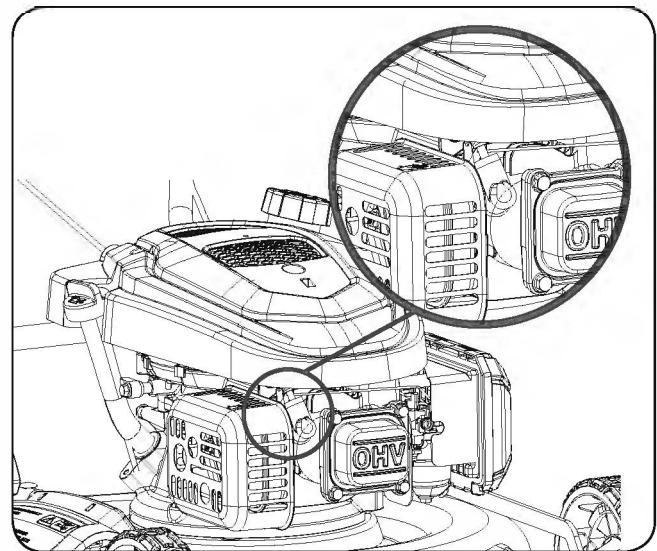

Figure 15
- Disconnect spark plug wire from spark plug and place wire where it cannot come in contact with plug. (See **Figure 15**)